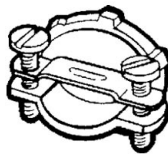

Fig. 5: Cable Clamp
5. Insert your CAT5/6 Ethernet cable first through a cable clamp (Fig. 5) and then through a knockout located on the left side of the panel enclosure. Pull only enough of the Ethernet cable into the enclosure to allow the plug to be easily inserted into the Ethernet board receptacle.